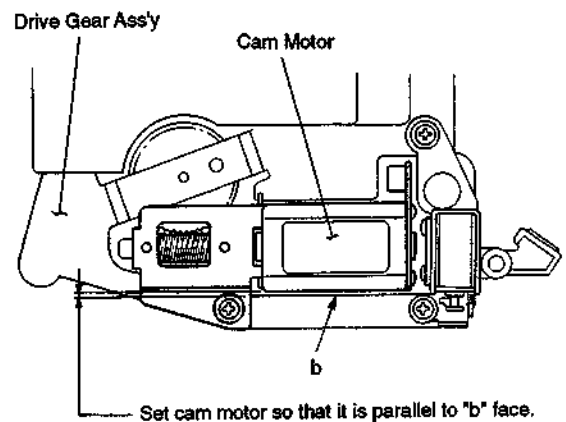

Fig.3.
- 3) Set the cam motor parallel to the 'b' face of the drive gear ass'y, then screw is fixed. (Fig.3.)